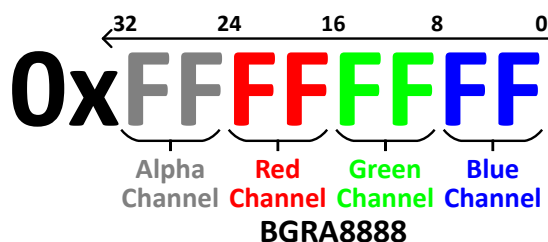

Figure 3. BGRA8888 format
- `vg_lite_set_grad()` (Section 17) configures colors of linear gradient in an array. These colors are `uint32_t` type with BGRA8888 format, as shown in Figure 3, instead of structure `vg_lite_color_t` with RGBA8888 format.